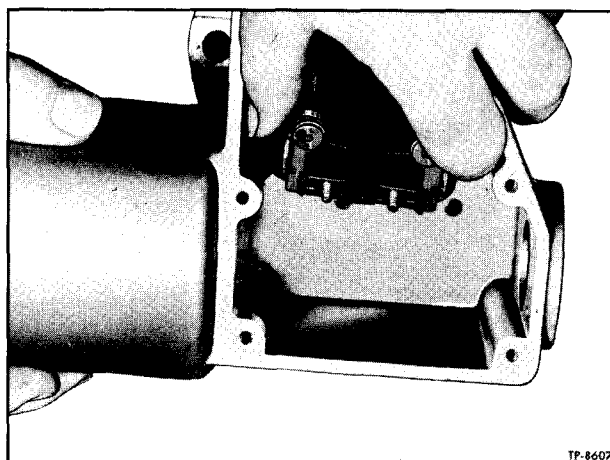

Figure 27—Removing Automatic Switch
10. Remove two jam nuts (9) and fiber washers (10) from outside of housing. On inside remove switch center screw (18). Pull out automatic switch (17) as shown in figure 27.
11. Do not disassemble the shift fork actuating lever (22), torsion spring (23), and spring winding lever (24) unless necessary to replace
6. Remove two jam nuts (9) and fiber washers (10) from outside of housing. On inside remove switch to housing screws (18). Pull out automatic switch (17) as shown in figure 27.